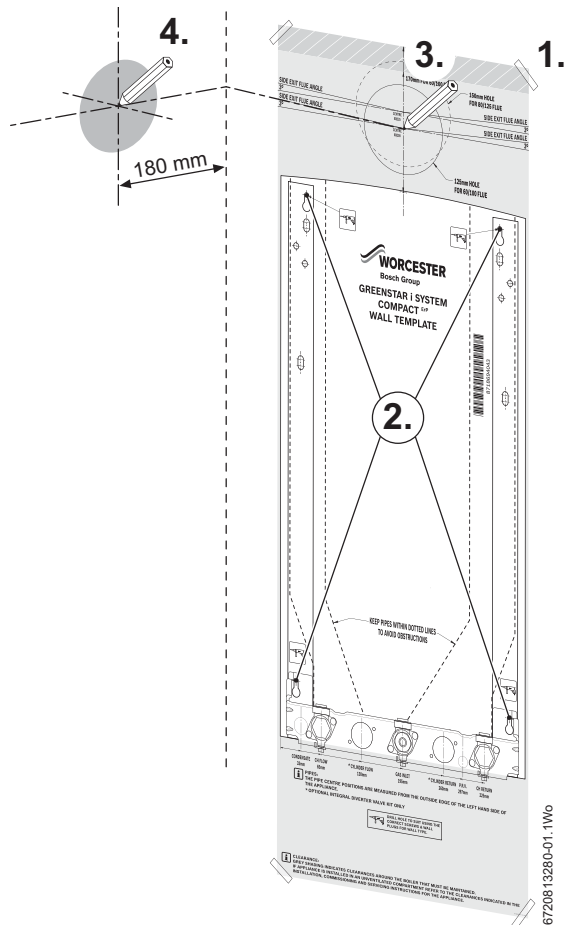

Fig. 22 Marking the flue position
- ▶ The figure 22 shows the boiler wall mounting template with the flue centre lines of both the 100mm and 125mm flue systems.
3. Mark the centre line of the flue to be used (3); the external diameter of the hole can also be marked if required.